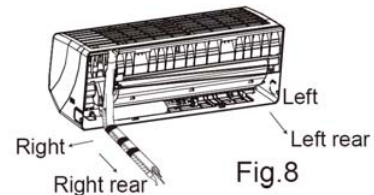

Fig.8
(2) Take out the piping from body case, wrap the piping, power cords, drain hose with the tape and then make them pass through the piping hole. (As shown in Fig.8)